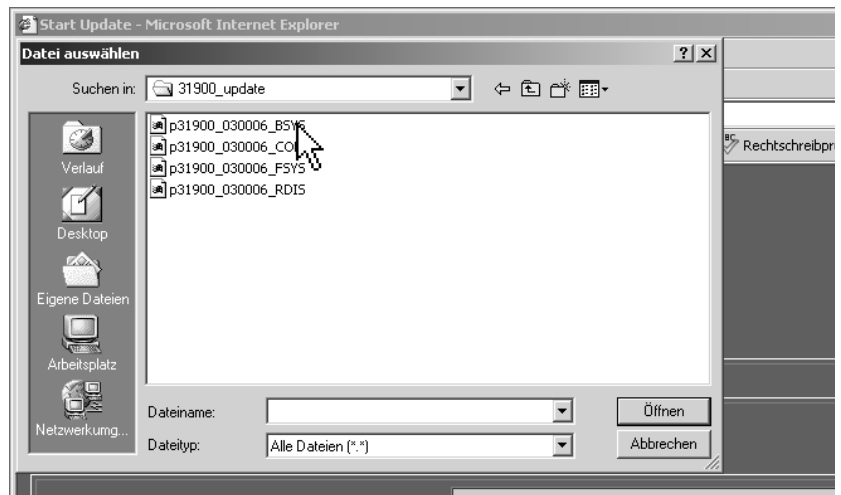

Fig. 8-6: The update file selection dialog box
4. Use the displayed dialog to select the directory path where you have stored the **four** update files. Select the file **p31900_XXXXXX_BSYS** first (see Fig. 8-6). XXXXXX represents the current software version code (also see Chapter 6.4 for details).